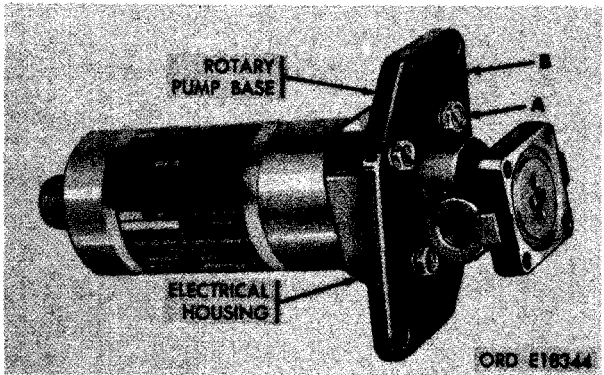

FIGURE 417. REMOVING OR INSTALLING ROTARY PUMP BASE .
- (3) Figure 417. (A) Remove four assembled washer screws securing rotary pump base to electrical housing. (B) Remove rotary pump base from electrical housing.